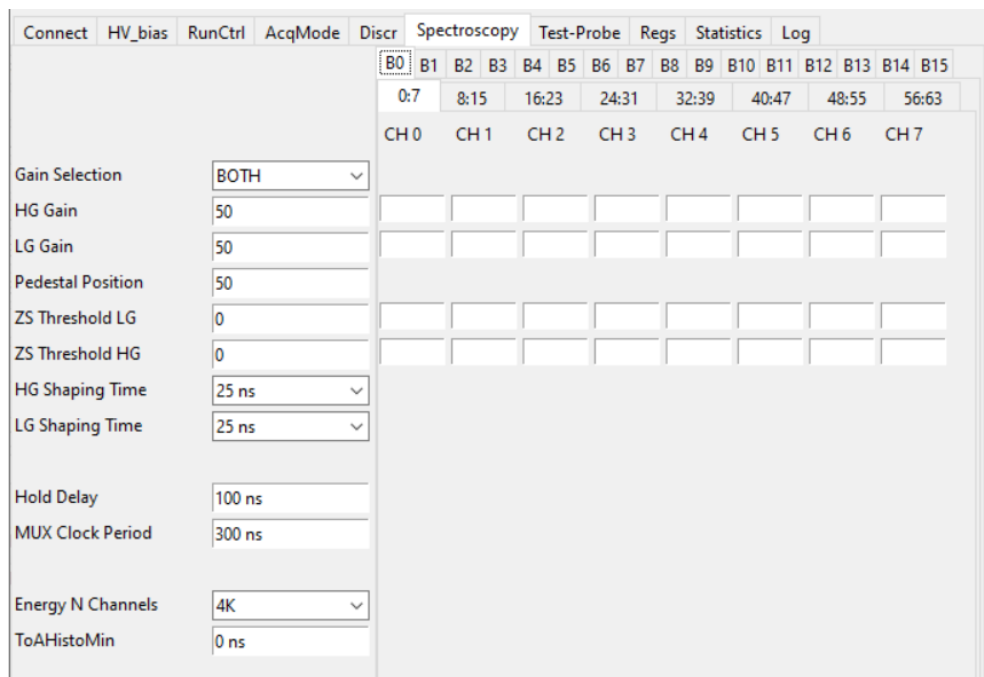

Fig. 10.22: Spectroscopy tab of the Janus GUI.
3. Click on the Spectroscopy tab (see Fig. 10.22). The user can now choose from which Citiroc-1A amplification chain (LG or HG) the pulse height values have to be A/D converted and saved to the data packet by selecting the proper option of the "Gain Selection" parameter. In particular, the available options are: